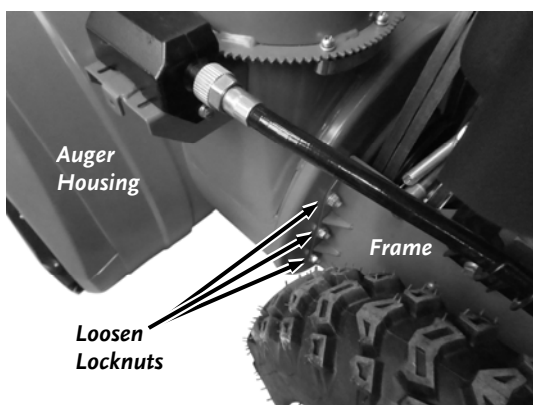

Figure 52
6. Loosen (do not remove) the three Locknuts on the left side of the Transmission Box using a 13mm Wrench (**Figure 52**).
13. Tighten the Locknuts to secure the left side of the Frame to the Auger Housing (**Figure 52**).